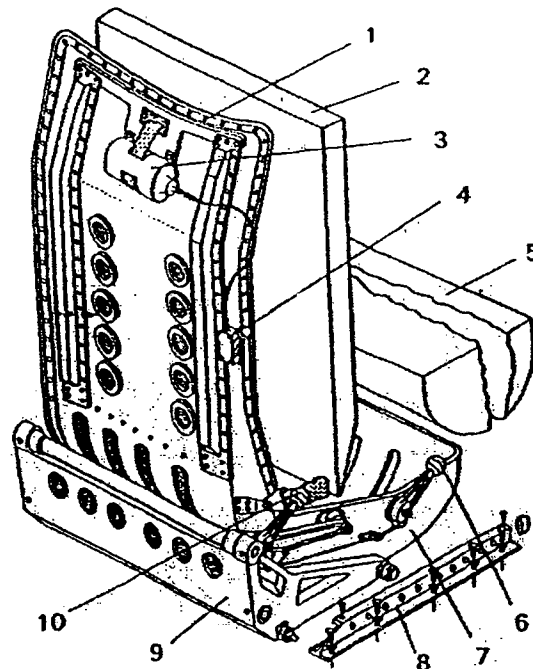

Figure 2-9 CPG Seat
The CPG's seat (Figure 2-9) consists of a rigid seat bucket (7) and back assembly (1) attached to a cast carriage (9) and two lever assemblies. The carriage is mounted on rails (8) which allow, the seat to be adjusted forward and back. The rails are bolted to the floor of the cabin. There is a removable padded backrest (3) on the inside of the seat back. The CPG's parachute serves as a seat cushion in flight. The seat bucket has a ring for attachment of the parachute chord. A cushion (5) may be placed in the seat bucket in lieu of a parachute. An arm rest may be installed on the right side to facilitate the crew member's work with the missile guidance instrument and control grip.
A. Vertical Adjustment. The seat height is adjustable via a torsion spring and ratchet assembly and two hydraulic struts. To elevate or lower the seat, the aft right handle (10) must be raised (slightly) and rotated upward. The struts will raise the seat. The seat is lowered by the weight of the crew member.
B. Horizontal Adjustment. Horizontal seat adjustment is made within the range of 165 mm (6.4 in) with the seat held in place at both extremes and three intermediate positions at 33 mm (1.3 in) increments. The seat may be moved forward and aft when the forward right handle (6) is rotated upward.